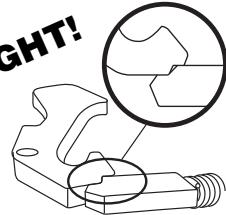

Figure 3B
- Check the plunger – it must be visible behind the lock and engaged on both steps**, as shown in *Figure 3A*. If the plunger is not visible or not engaged on both steps (*Figure 3B*), turn the adjustment bolt counterclockwise 1/2 turn, then try to lock the locks again.